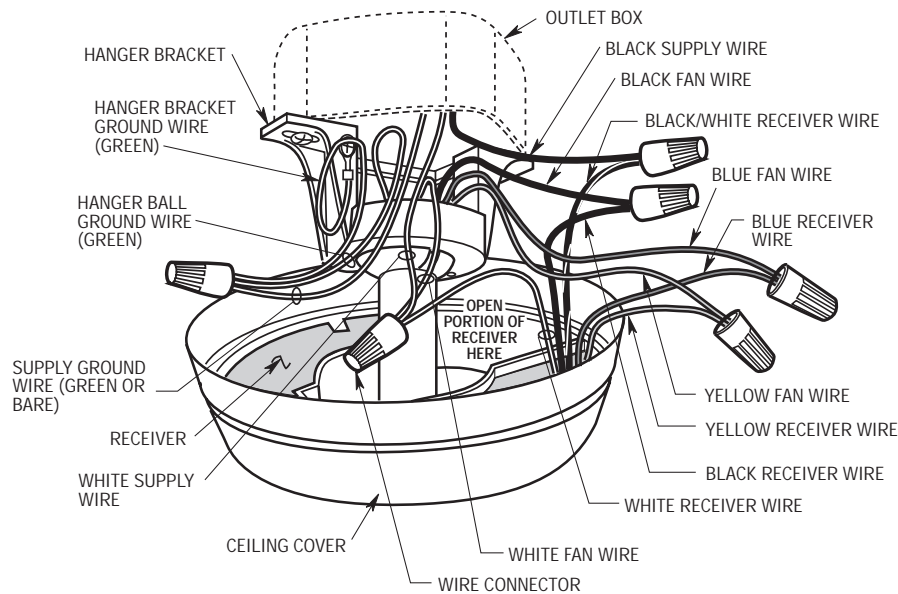

Figure 9
1. Pull the wire leads, coming from the end of the downrod, and the supply wires through the open side of the hanger bracket. (Figure 9).
2. Position the SW105 Receiver (supplied) in the ceiling cover so that the flat side of the receiver faces up and the open portion of the receiver is to the right, as shown in Figure 9.
3. Using wire connectors (supplied), make wiring connections as follows (Figure 9 and 10):